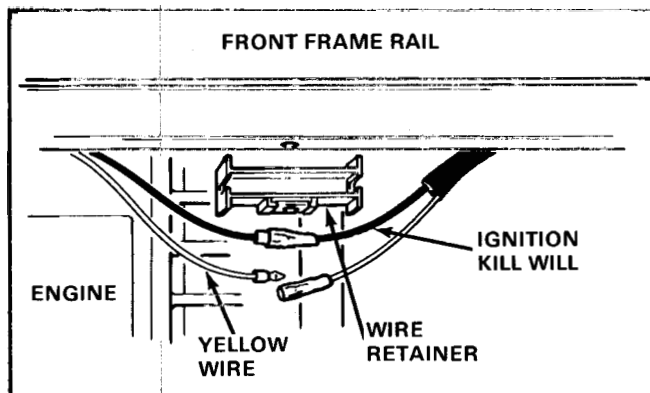

Figure 50
3. The wire is retained by a plastic clip to the crossbar of the tube frame on the front of the generator. Remove the clip with one screw and disconnect the wire. See Figure 50.